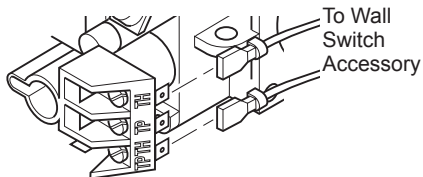

Figure 36 - Attaching Alkaline Battery to Receiver
1. Connect one terminal of 25 ft. wire for wall switch to TPTH terminal on the valve. Connect remaining wire terminal to the TH terminal on the valve. Make sure wire terminals are in positions on unit as pictured in Figure 36. If wires are not connected as shown, switch will not work.